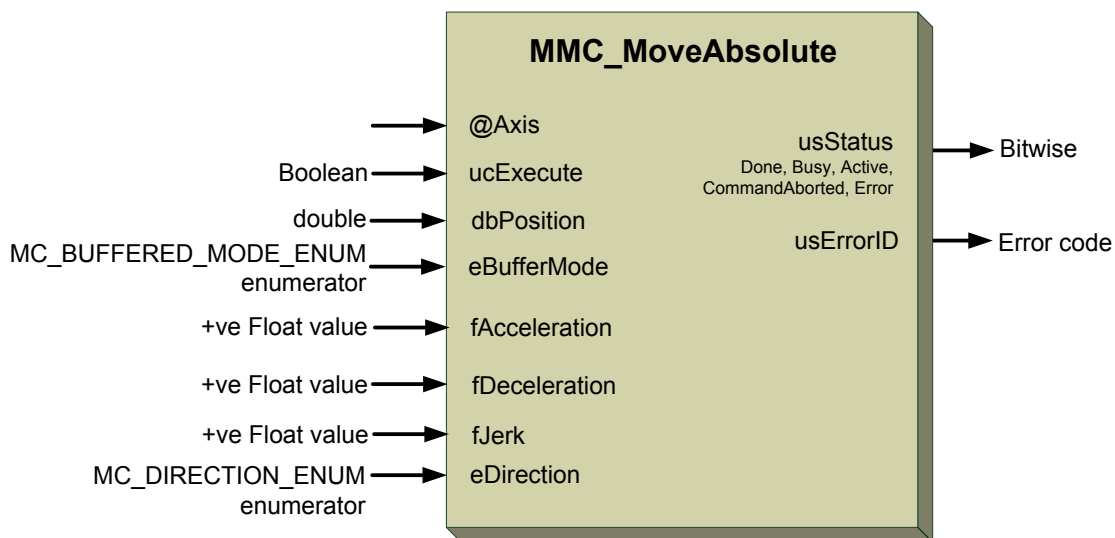

Figure 5-30: MMC\_MoveAbsolute function block
**Figure 5-30** describes the function block for MMC\_MoveAbsolute as applied within the IEC 61131 programming.